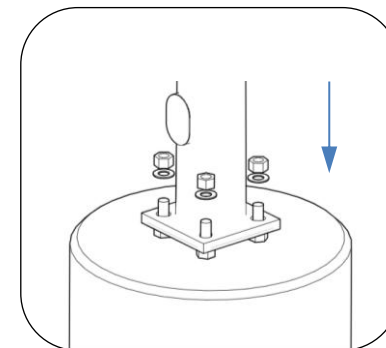

Fig. 1 – Install pole
1. Lift the pole into position over the installed anchors (refer to Typology Catenary Ring Light anchor kit installation guide) as shown in Fig. 1. Align the arm tab holes or eyebolt at top of pole to point toward the opposing pole position. Ensure that the base plate is resting on all four washers.
2. Install Hardware as shown in Fig.1.